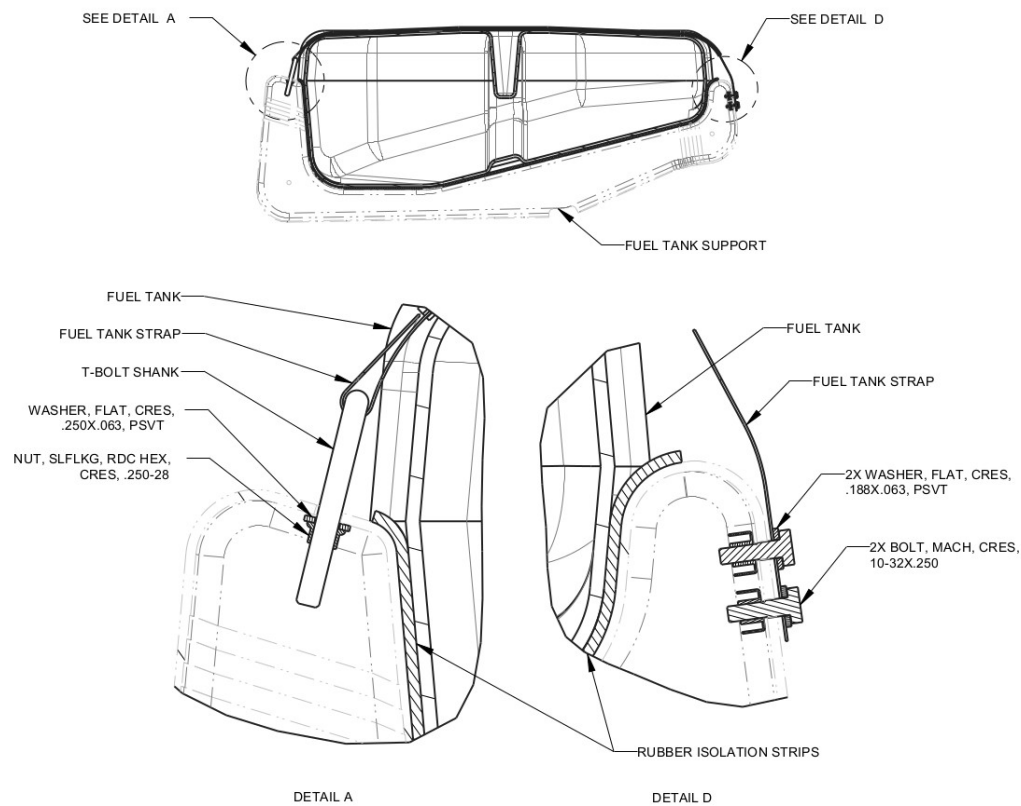

FIGURE 10-4
18. Remove self-locking nut from both T-bolt shanks located at FWD end of fuel tank. (See Figure 10-4. Detail A.)
19. Remove two bolts and washers securing the fuel tank straps to the aft end of fuel tank. (See Figure 10-4. Detail D.)